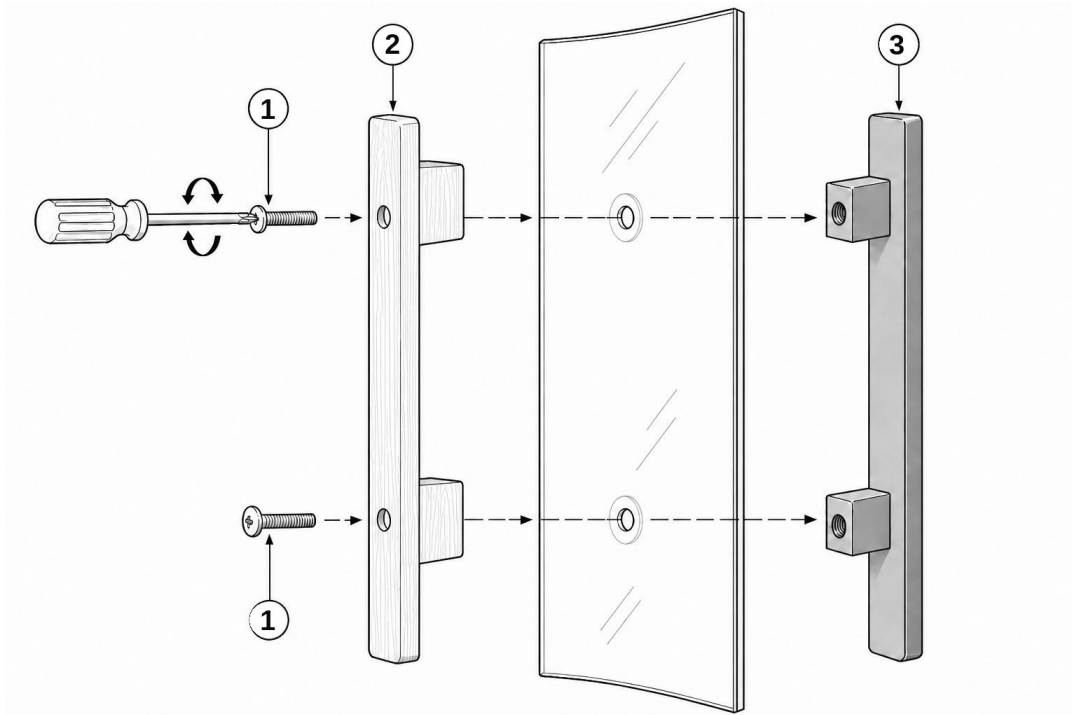

Figure 11. Door handle assembly: bolts (1) pass through the interior wooden handle (2) and the glass into the exterior stainless steel handle (3).
Parts (Figure 11): (1) two 6 × 60 mm bolts, (2) the interior wooden handle, (3) the exterior stainless steel handle, and the wooden plugs.